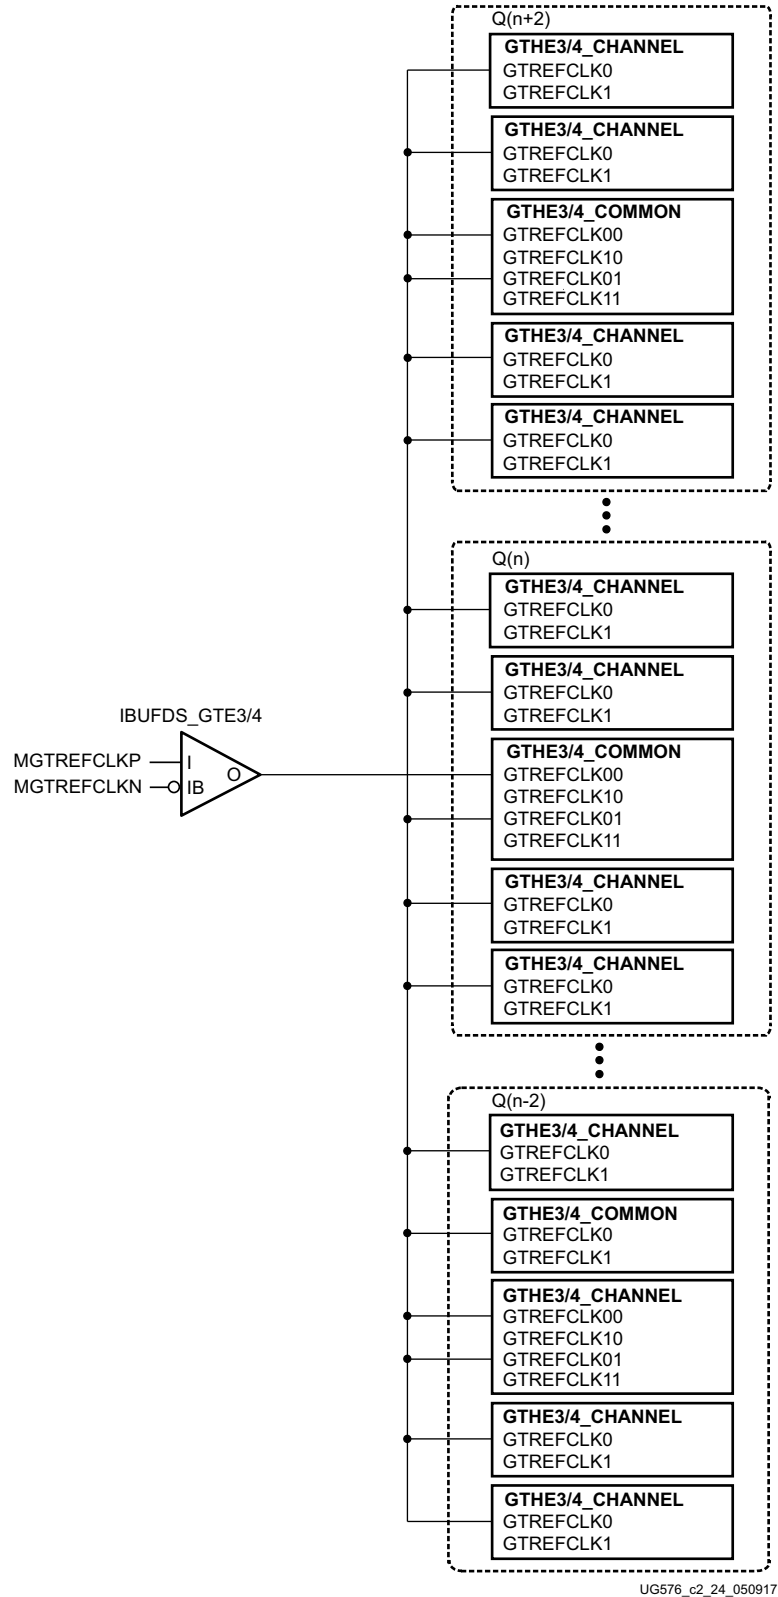

Figure 2-7: Single External Reference Clock with Multiple Transceivers in Multiple Quads
Figure 2-7 shows a single external reference clock with multiple transceivers connected to multiple Quads. The user design connects the IBUFDS\_GTE3 output (O) to the GTRFCLK0 ports of the GTHE3/4\_COMMON and GTHE3/4\_CHANNEL primitives for the GTH transceiver. In this case, the Xilinx implementation tools make the necessary adjustments to the north/south routing as well as pin swapping necessary to route the reference clocks from one Quad to another when required.
**Note:** The IBUFDS\_GTE3/4 diagram in Figure 2-7 is a simplification. The output port ODIV2 is left floating, and the input port CEB is set to logic 0.